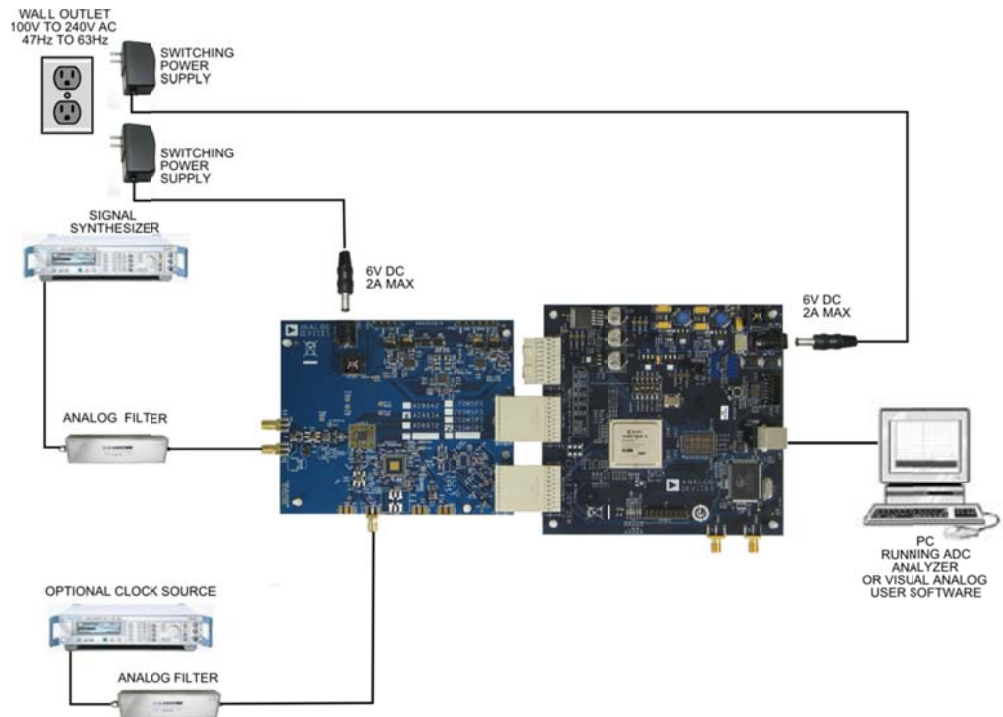

Figure 1: AD6672 Evaluation Board with HSC-ADC_EVALCZ Data Capture Board
1. Connect the AD6672 evaluation board and the HSC-ADC-EVALCZ board together as shown in Figure 1.
9. Next open the SPI Controller software. If prompted for a configuration file, select the configuration file titled AD6672spiR03.cfg. If not, check the title bar of the window to see which configuration is loaded. If necessary, choose "Cfg Open" from the "File" menu and select one of the configuration files named above. Note that the CHIP ID(1) field may be filled whether the correct SPI Controller configuration file is loaded or not.
11. Set the DCO Clk Delay Enable checkbox in the FLEXOUTPUT DELAY(17) panel on the ADCBase0 tab as shown below. In addition, set the DCO Clk Delay register to the '600ps additional delay on DCO pin'. If using parts branded with "XCPZ", also set the O/P Port DCO Clk Invert checkbox in the OUTPUT PHASE (16) panel. Otherwise do NOT set the O/P Port DCO Clk Invert checkbox. These settings align the output timing with the input timing on the capture FPGA.